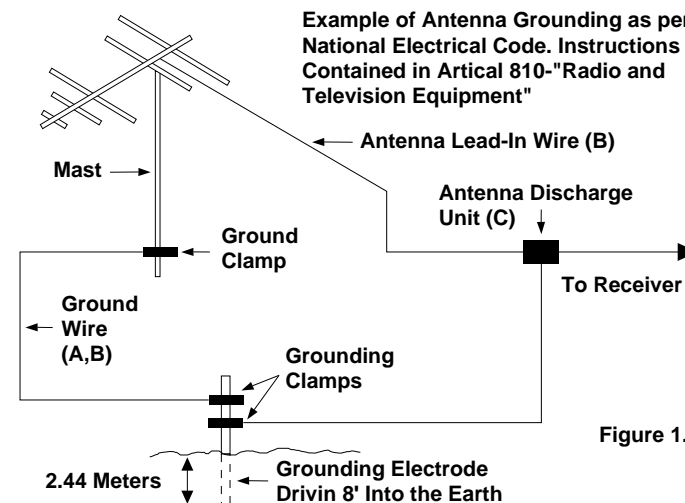

Figure 1.
**Outdoor Antenna Grounding:** If an outside antenna is connected to the receiver, be sure the antenna system is grounded so as to provide some protection against voltage surges and built up static charges. Section 810 of the National Electrical Code, ANSI/NFPA no. 70-1983, provides information with respect to proper grounding of the mast and supporting structure, grounding of the lead-in wire to an antenna discharge unit, size of grounding conductors, location of antenna-discharge unit, connection to grounding electrodes, and requirements for the grounding electrode. See figure 1.